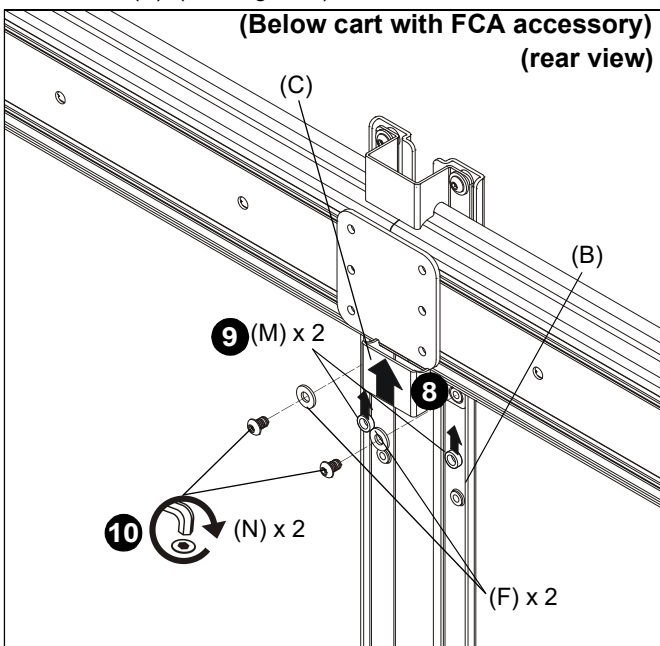

Figure 9
8. Slide second shelf bracket (C) underneath head assembly, lining up holes on shelf bracket (C) to holes on main bracket (B). (See Figure 9)
9. Slide two 1/2" spacers (M) in between shelf bracket (C) and main bracket (B). (See Figure 9)
10. Use two 1/4-20 x 7/16" button head cap screws (N) and two large washers (F) to secure shelf bracket (C) to main bracket (B). (See Figure 9)